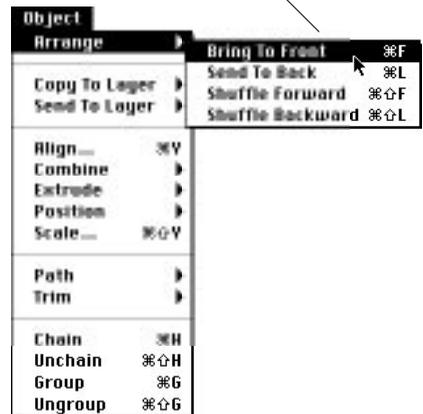

Fig. 1 Choosing menu commands
1. Move the pointer to the menu title at the top of the screen (*figure 1*).